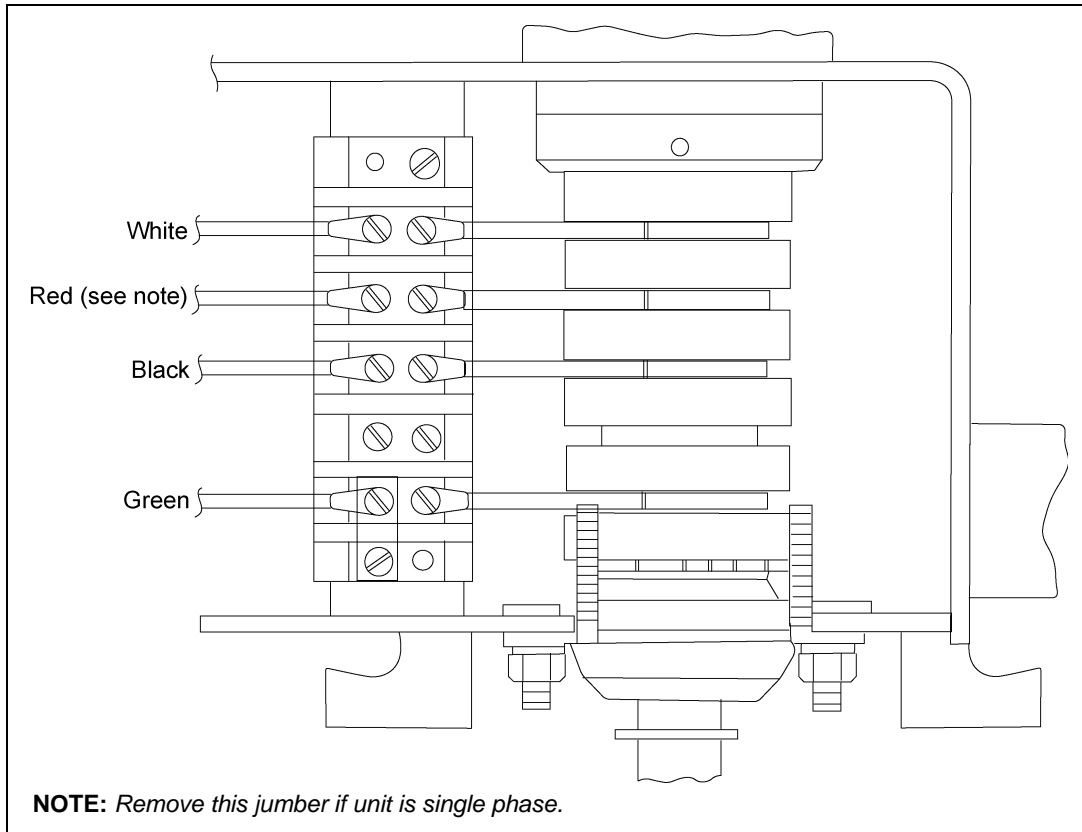

Figure 4
13. Re-wire the yoke leads to the swivel extension wires and fasten with wire nuts. (See Figure 4.) Rewire the junction box connections following the color coded wires. If you have a single phase unit cap off the red swivel wire.